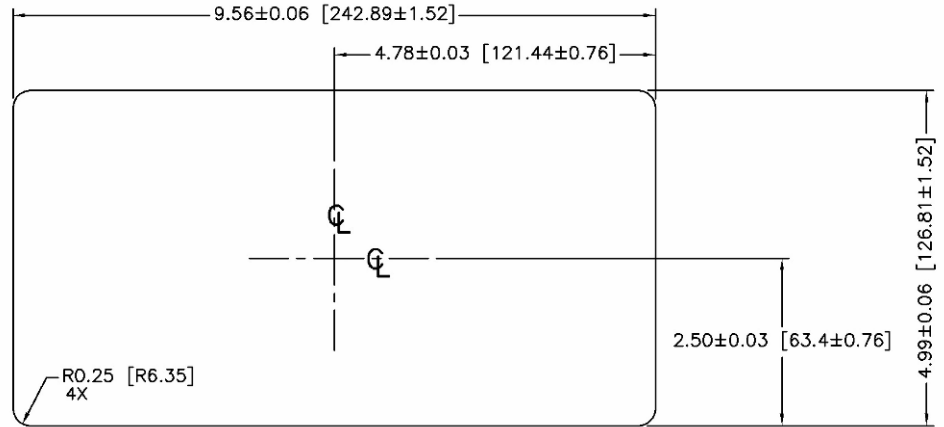

Figure 2-5: Panel Cutout Dimensions
4. Cut an opening in the panel or industrial enclosure per the panel cutout dimensions shown in Figure 2-5.